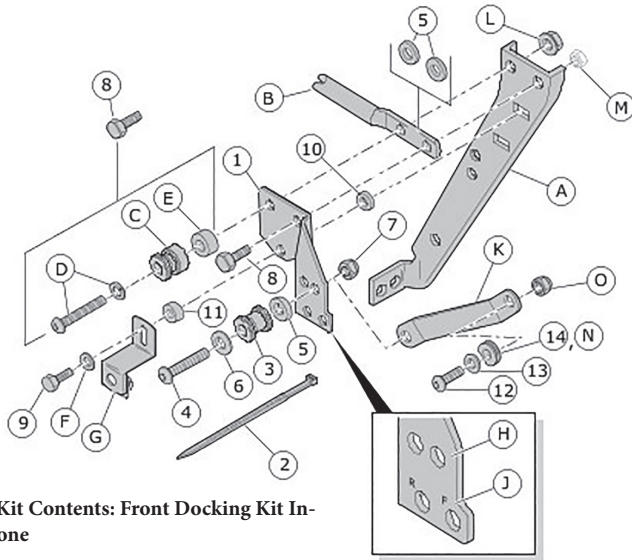
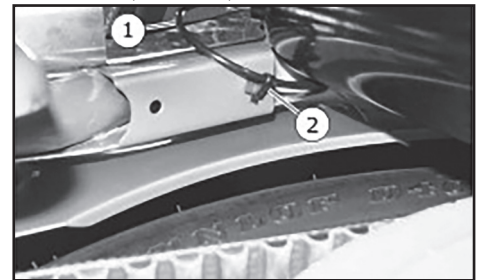
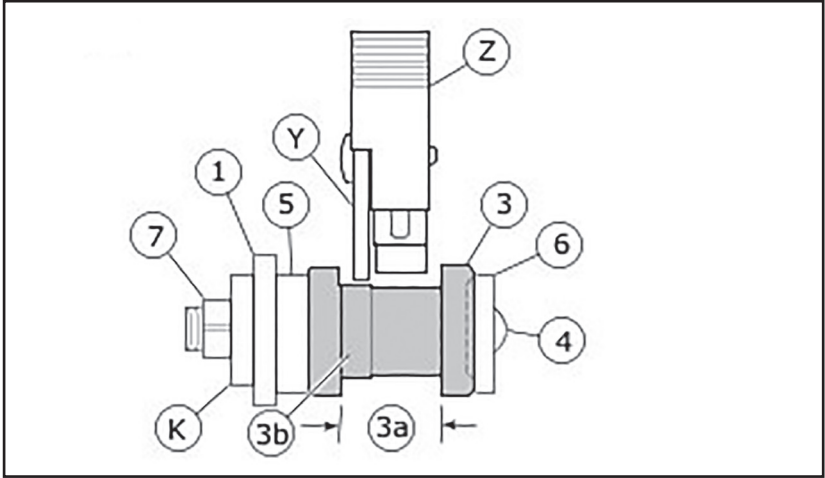

Figure 1. Kit Contents: Front Docking Kit Installed Alone
Figure 4. Air Hose Routing for 2003 and Later Models
Figure 7. Proper Alignment of Latch in Docking Point
See Figure 1. The front docking-point mounting brackets (1) are side-specific. The letters stamped near the lower holes must face outward, and identify the front (F) and rear (R) positions.
2. Without rear docking kit: See Figure 1. Install the mounting bracket as follows:
- a. Install a 5/16-18 x 1 in. (25 mm) long screw (8) in both upper holes.
- b. Install a 1/8 in. (3.2 mm) thick spacer (5) on each screw, between the mounting bracket (1) and the Original Equipment (OE) saddlebag support bracket (A).
3. With rear docking kit: See Figure 1. Install the mounting bracket as follows:
- a. Install 5/16-18 x 1 in. (25 mm) long screw (8) from front docking kit 50-1526 in the upper front hole of bracket (1), and through front of bracket (B) from rear docking kit 50-1513, placed between mounting bracket (1) and original equipment saddlebag support bracket (A).
- b. Install 5/16-18 x 2-1/4 in. (57 mm) long screw and lockwasher (D), docking point (C), and 0.386 in. (9.8 mm) thick spacer (E) from rear docking kit 50-1513 in the upper rear hole of bracket (B) from rear docking kit 50-1513, placed between mounting bracket (1) and original equipment saddlebag support bracket (A).
4. See Figure 1 and Table 2. Install rear saddlebag mount.
- a. Insert 1/4-20 screw (item 9, length is 1 in. or 7/8 in. depending on model) through washer (F) and slot in saddlebag mounting bracket (G).
- b. For FLHR, FLHT, or FLTR models: Insert threads through bottom hole of mounting bracket (1), directly under screws previously installed.
- c. For FLHRC or FLHRS models: Place 9/16 in. (14.3 mm) thick spacer (11) onto screw threads, and insert threads through the bottom hole of mounting bracket (1), directly under screws previously installed.
- d. Place 1/8 in. (3.2 mm) thick spacer (10) onto screw threads, and insert threads through saddlebag support bracket (A) and into clip nut. Tighten.
- c. For 2003 and later models: See Figure 4. Remove left-side shock-absorber air hose (1) from air valve, and reroute it underneath top shock mount. Use cable strap (2) to anchor air hose as shown and prevent it from getting kinked or pinched. Re-install air hose to air valve, and install air valve in hole marked “F” on left-hand side bracket.
7. See Figure 7 and Figure 1. Place a washer (6) onto the threads of a button-head screw (4) from this kit.
8. Place a docking point (3), oriented as shown, over the screw threads, followed by a spacer (5).
- a. For 1994–1996 models: Through rearmost hole (H) in the mounting bracket (1).
- b. For 1997 and later models: Through frontmost hole (H) in mounting bracket (1).
- c. Insert screw threads through larger hole in bracket (53805-99, item K, part of Rack or Sissy Bar Upright Kit) and fasten loosely in place with locknut (7).
- a. See Figure 1. Obtain a docking point bushing (14 or N), screw (12), and flat washer (13) from the kit.
- d. Insert the screw through the smaller hole in bracket (K) and the fender support cover.
- e. Thread the screw into the weld nut in the fender support (or nut (O) for 1994–96 models).